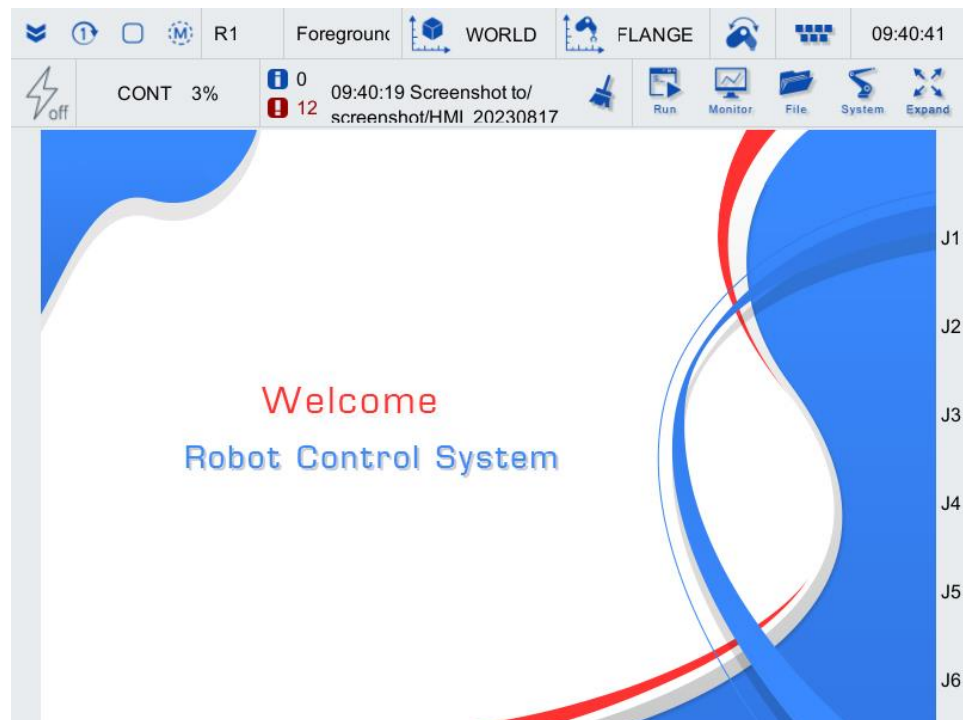

Figure 5-39 Teach pendant main interface
Step1. Log in to the teach pendant and you will see the main interface of the teach pendant as shown in Figure 5-39.